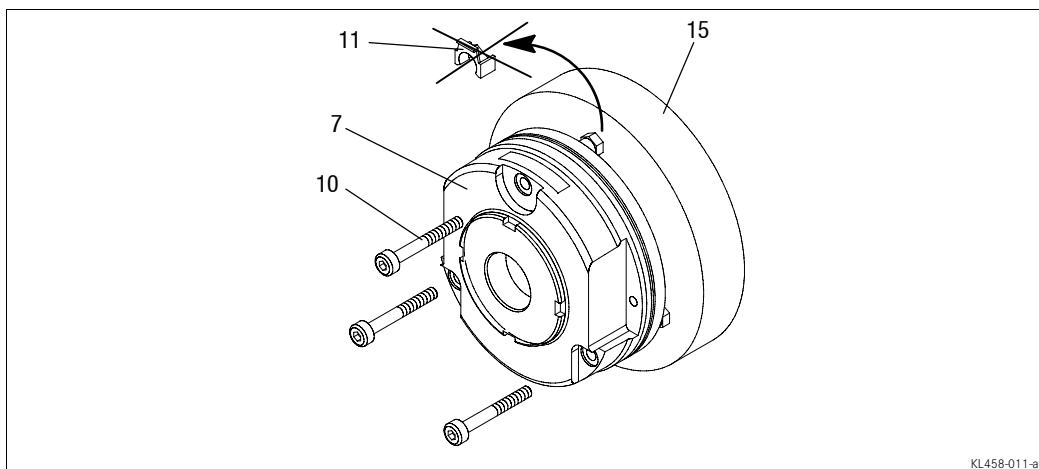

Fig. 7 Assembly of the spring-applied brake
4. Screw the complete stator (7) onto the endshield (15) using the screws (10). (Fig. 7).
5. Remove the clips (11) (throw away; Fig. 7).